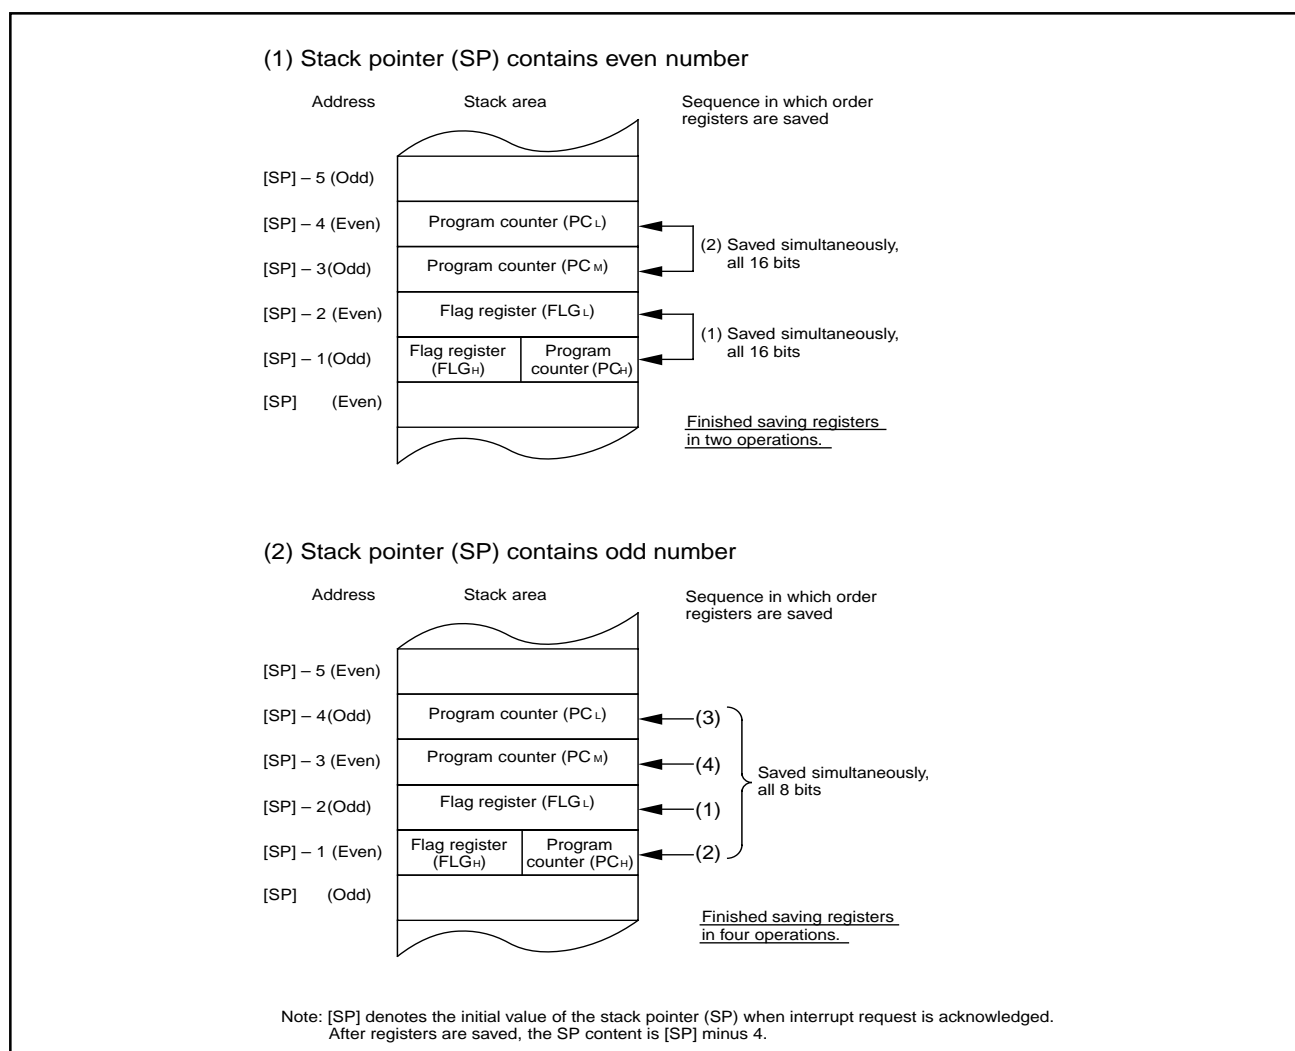

Figure 1.27. Operation of saving registers
The operation of saving registers carried out in the interrupt sequence is dependent on whether the content of the stack pointer, at the time of acceptance of an interrupt request, is even or odd. If the content of the stack pointer (Note) is even, the content of the flag register (FLG) and the content of the program counter (PC) are saved, 16 bits at a time. If odd, their contents are saved in two steps, 8 bits at a time. Figure 1.27 shows the operation of the saving registers.